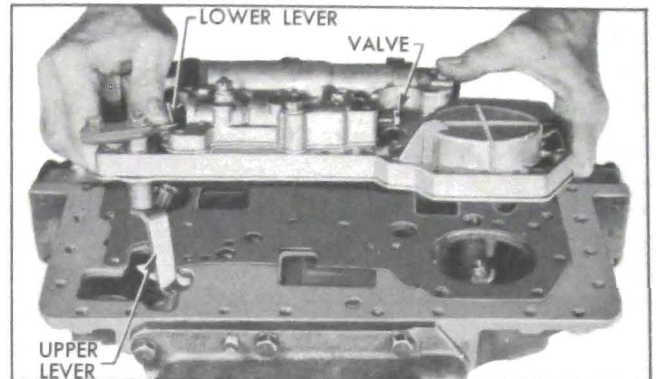

**Figure 5-28—Disconnecting Valve Operating Rod from Upper Lever**
6. Disconnect valve operating rod from valve operating lever (upper) by placing screwdriver on rod close to lever and exerting slight pressure. A spring loaded socket on rod engages a ball stud on lever. See figure 5-28.
1. Disconnect valve operating rod from upper operating lever if not previously done. See figure 5-28.